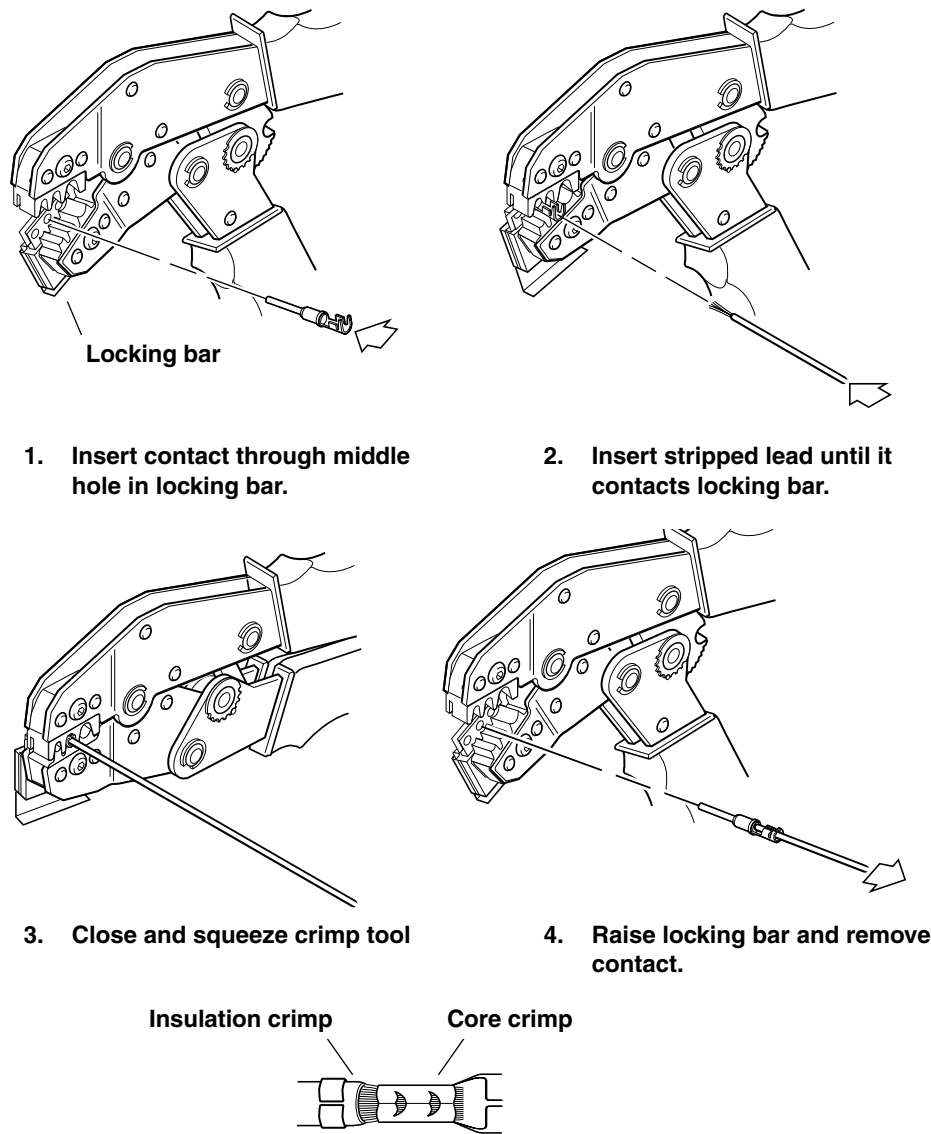

Figure 5-12. Deutsch Crimping Procedure
1. See Figure 5-12. Squeeze the handles to cycle the crimp tool to the fully open position.